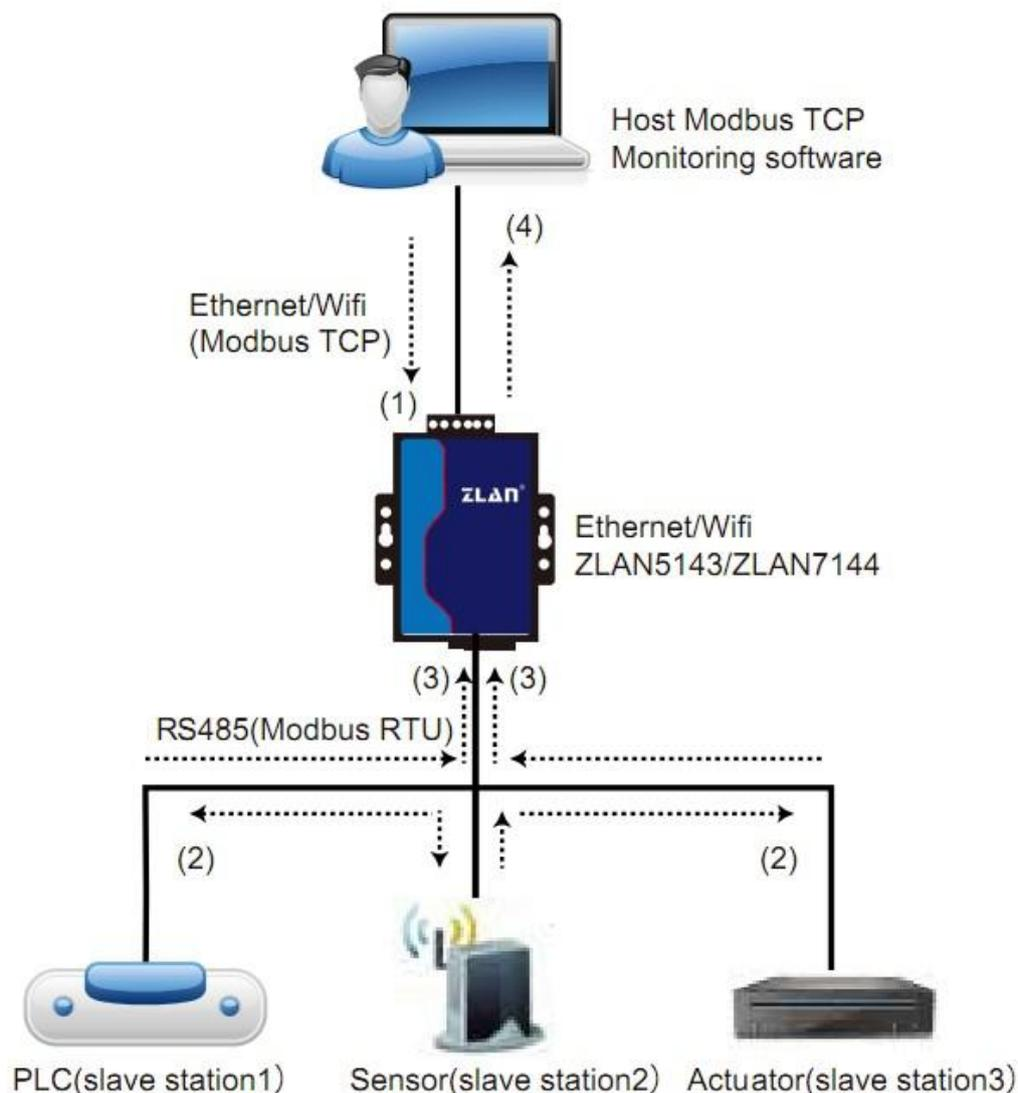

Figure 38 Storage Modbus Gateway
As shown in figure 38: ordinary Modbus TCP data flow direction (1) → (2) → (3) → (4). In other words, Modbus TCP instruction is first converted into corresponding Modbus RTU instruction, and then the device responds Modbus RTU instruction to Modbus gateway, which is then converted into Modbus TCP again and sent to the monitoring host computer.